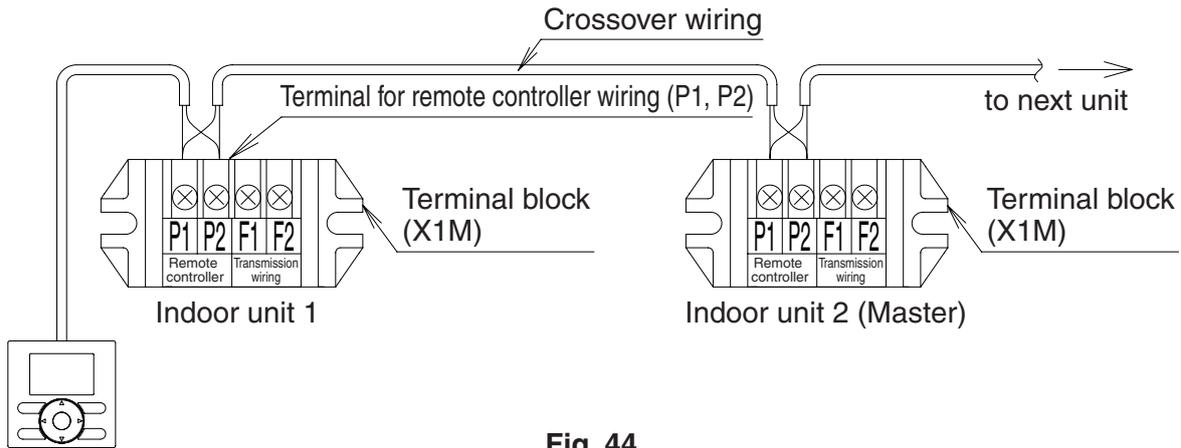

**Fig. 43**
- When using as a pair unit or as a master unit for simultaneous multiple unit operation, you may carry out simultaneous start/stop (group) control up to 16 units with the remote controller. (Refer to Fig. 43)